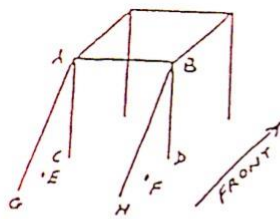

FIG 1
- a) The general design shall be as in fig 1.
- d) Roll cages must have two longitudinal braces, one each side, from the roll cage towards the rear of the vehicle, shown as A to G and B to H in fig 1.
- e) The fitting of diagonal bracing is compulsory. Such bracing must be made of the same material as the roll cage, and shall be fitted as in fig 1. from either A to D or H or to any point between D and H, or from B to C or G or to any point between C and G. Two diagonal braces, conforming to this clause, may be used. Alternatively an A frame can be used in main hoop, with the top of the A in the centre of A-B, bottom legs can be between C-G and D-H or chassis mounted.
- e) All tubes to be as straight as possible between structural bends as per fig 1.
- b) If any of the pipe that forms the roll cage structure as in FIG1 – Roll Cage General Design, is bent out of line, because of impact, by more than the OD of the pipe and cannot be straightened, repaired or replaced without showing signs of damage or crimping then that vehicle will be deemed unable to continue in competition until it has been satisfactorily been repaired and passes scrutineering again.